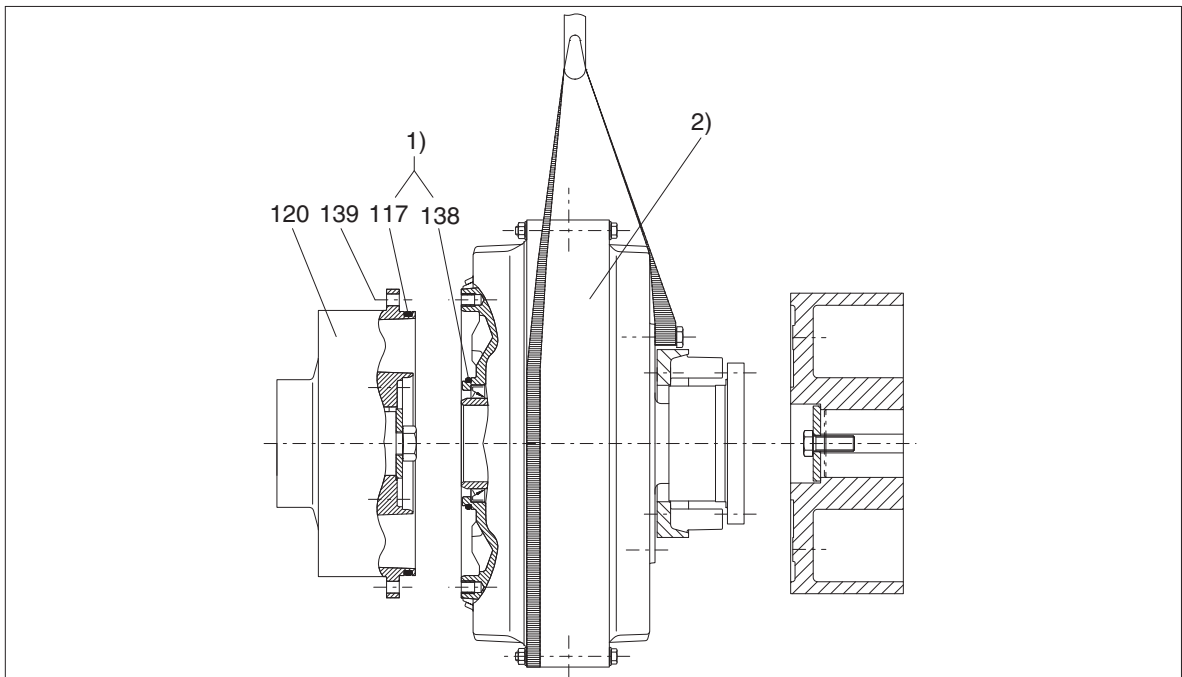

Fig. 15: Removing the FLUDEX coupling -b
The axial space thus obtained is sufficient to detach the main coupling axially from the hub-carrier part (120) and demount it radially after the bolts (139) have been loosened. At the same time care must be taken that the O-rings (117, 138) are exposed (see figure 15).